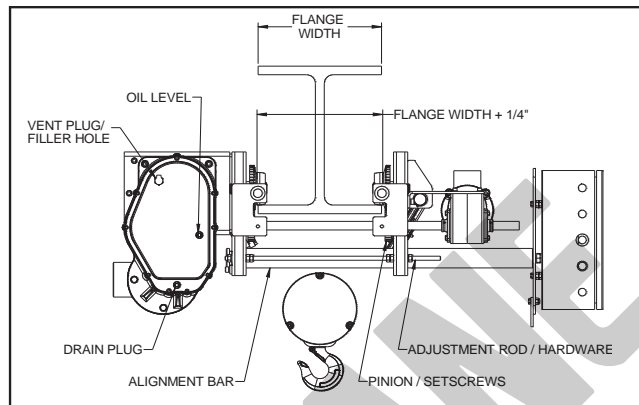

Figure 2-1. Trolley Wheel Spacing
If the trolley can be installed directly from the end of the supporting beam, adjust the spacing between the trolley wheel flanges to be 3/16"-1/4" greater than the exact width of the beam flange (See Figure 2-1). Before adjusting the width of the trolley frame, make sure to loosen the pinion set screws on the keyed cross shaft nearest the traverse drive reducer. Do not lose the keys for the pinion during adjustment. Also, the electrical conduit/cable must not be constrained when attempting to adjust the trolley sides, in or out. The trolley width is adjusted by loosening the jam nuts on the traverse drive side of the threaded rods at each end of the hoist. If necessary, lubricate the frame alignment bars with penetrating oil before attempting to adjust trolley width. The trolley side may then be pushed or driven into position by turning the adjusting nuts on the threaded rods. Adjust nuts on each side of the hoist simultaneously, to avoid binding. After adjusting the trolley to the proper width, tighten all adjusting nuts and setscrews, and re-secure the electrical conduit/cable. Verify that the geared wheels mesh properly with the traverse drive pinions. Using proper equipment, carefully lift the hoist and install on the end of the beam. Lubricate the wheel gear and all pinions (WG, Section IV, Paragraph 4-5).
For trolleys which are to be mounted along the span of a beam not having open ends, the trolley must be adjusted in the same manner as described above to a width that allows clearance between the axle ends and the beam flange. Using proper lifting equipment, the trolley and hoist must then be lifted to the beam where it is to be installed. Once in position, adjust the spacing between the trolley wheel flanges to be 3/16"-1/4" greater than the exact width of the beam flange (See Figure 2-1). After tightening all adjusting bolts, set screws, and all electrical conduit/cable clamps, carefully set the trolley on the beam. Lubricate the wheel gear and all pinions (WG, Section IV, Paragraph 4-5).
- a) Check Oil Level. (Figure 2-1) The gearcase has been filled with oil to the proper level. However, this should be rechecked before operating the hoist.
Check oil level by removing the oil level plug indicated in Figure 2-1. When properly filled, oil should be level with the bottom of the tapped hole. Fill to this level with oil as specified in Paragraph 4-2.e.